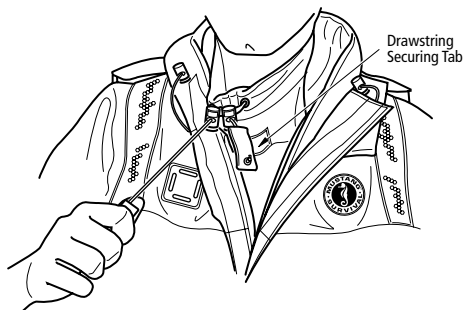

FIGURE 16
- a) Adjust the neck seal to a snug but comfortable fit. Do not tighten the neck seal to the point where it is uncomfortable (see fig. 16).